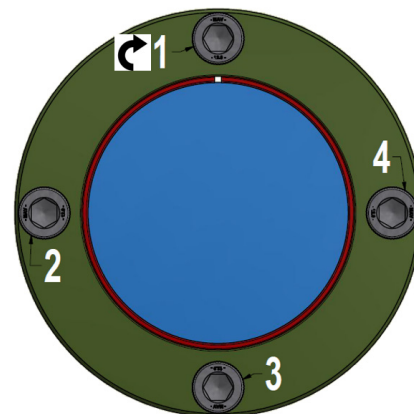

Fig. 4
3. Use a torque wrench set approx. 5% higher than specified tightening torque (Ma). **Progressively tighten the screws in either a clockwise or counterclockwise sequence, using approx. ¼ turns for several passes** until ¼ turns can no longer be achieved (fig. 4).